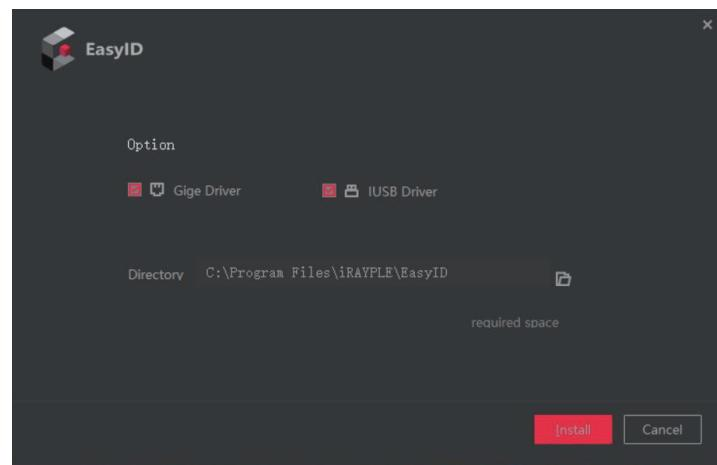

Figure 3-3 Drive and installation path selection
1、Click "Configuration" in Figure 3-3 to enter the "Advanced" page, and set "Jumbo Packet" to the maximum value "9014 bytes".